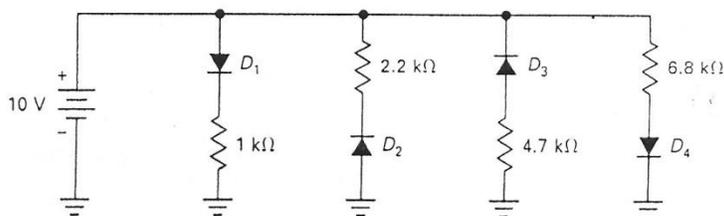

Figure 4-2
- Figure 4-2 shows a diode circuit. Is diode D_1 on or off? Record your answer in Table 4-5 under " D_1 normal."
- Repeat Step 17 for the remaining diodes shown in Fig. 4-2.
- Assume that the polarity of the battery is reversed in Fig. 4-2. Determine whether each diode is on or off. Record your answers in Table 4-5 for the reverse condition.
- In Fig. 4-2, diode D_3 is: